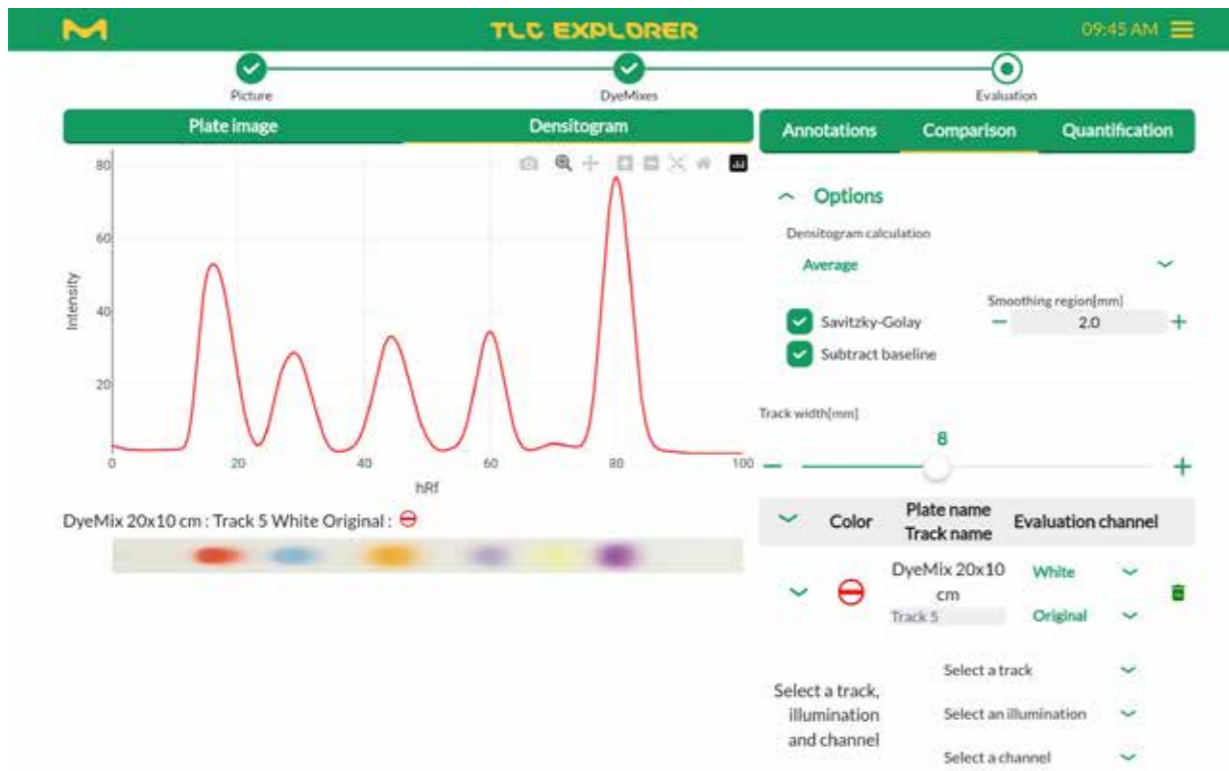

Figure 4.16: Edit densitogram calculation and display
- 8) Above the plate image, click on tab 'Densitogram' to see the track plotted. Below it, you can see the vertically rotated track image, scaled to match the plot's x-axis above (see figure 4.16).
- 10) Expanding the 'Options' section gives you access to additional controls (see figure 4.16) which will be applied to all tracks of this 'Comparison':